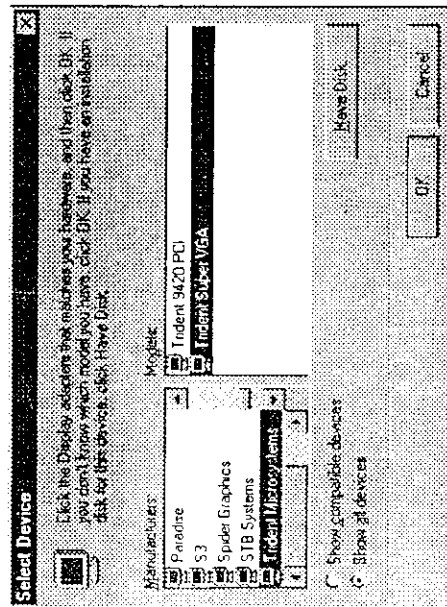

Figure 3-4.
5. On the "Select Device" page, SELECT the "Have Disk" button to install the Trident display driver from Disk 2 of the Drivers and Utilities diskette (refer to Figure 3-4).